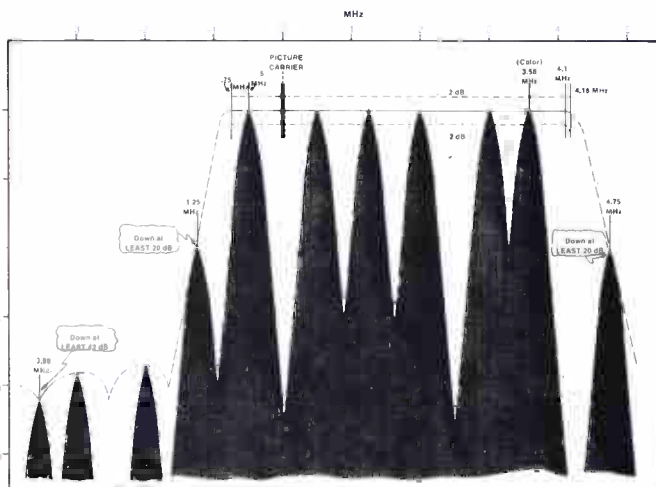
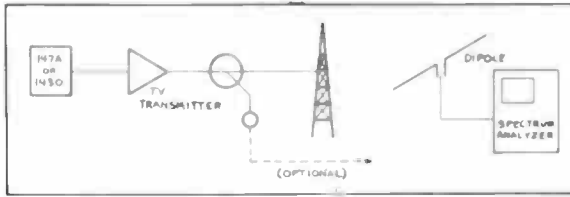

Fig. 1 Idealized color transmitter response (multiburst superimposed).
Fig. 6 Set-up procedure No. 2. Equipment required: 7L12 or 7L13 Spectrum Analyzer, 700 series mainframe, 147A NTSC signal generator.
Sideband Analysis of a TV transmitter indicates performance, tuning, vestigial sideband filter tuning and overall response. Many stations, as a matter of preventive maintenance, perform sideband analysis daily before the beginning of the broadcast day. A useful representation of a typical color TV transmitters response is shown in Fig. 1.
Transmitter response specifications are defined by FCC in 73.687. Ideally analysis would show what is in Fig. 1. As a practical matter we can show the response curve, or with a multiburst, can show a representative curve with frequency domain "spikes." The relationship shown between the spikes and the response curve is valid as shown. Some of the advantages of using a spectrum analyzer are the following:
changes will help identify the critical points on the response curve (per Fig. 1) although the calibrated span of the spectrum analyzer makes the use of markers unnecessary. The equipment that is required is shown in Fig. 6. The procedure is as follows:
4. Using storage, a picture of the sideband response will be slowly 'painted' upon the screen similar to Fig. 1